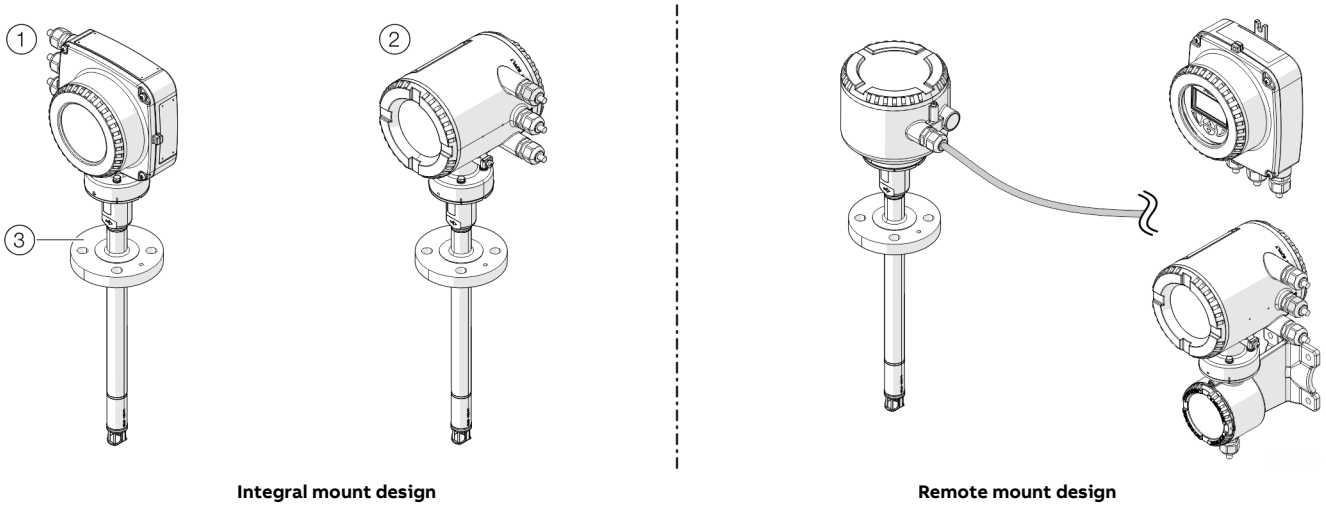

Figure 1: Sensor FMT430, FMT450 (example)
Design	Integral mount design (see Figure 1 on page 3), remote mount design; transmitter optionally in single-compartment housing (2) or dual-compartment housing (1)